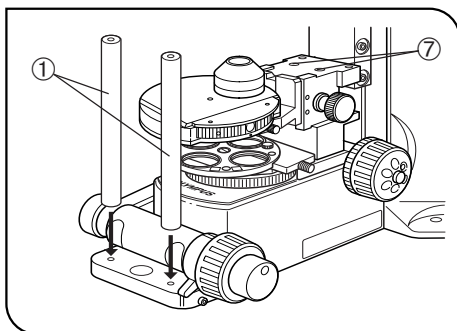

Fig. 55
(Figs. 55 & 56)
When no condenser is used, the stage height can be lowered by 50 mm by loosening the 2 condenser holder clamping screws (⑦ in Fig. 55) and removing the holder.